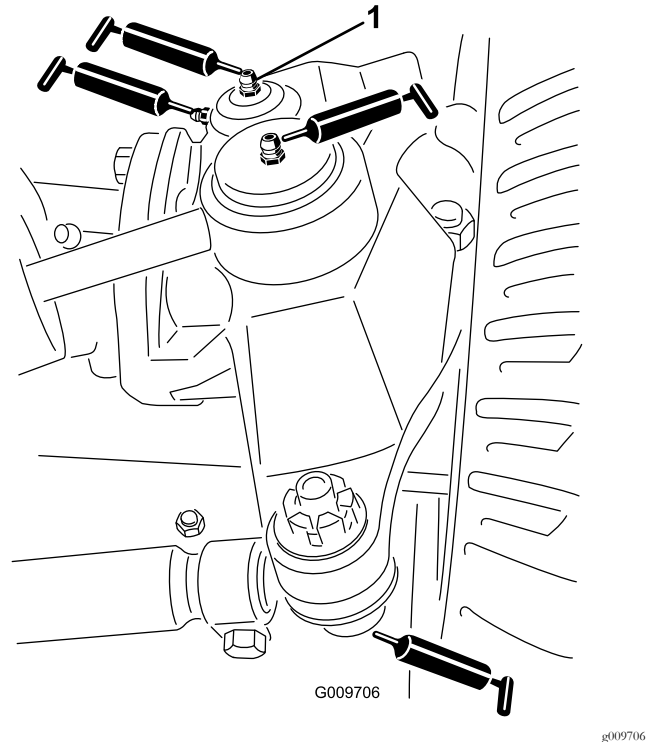

Figure 35
- Steering-cylinder ball joints (2) as shown in Figure 35
- Tie-rod ball joints (2) as shown in Figure 35
- Kingpin bushings (2) as shown in Figure 35